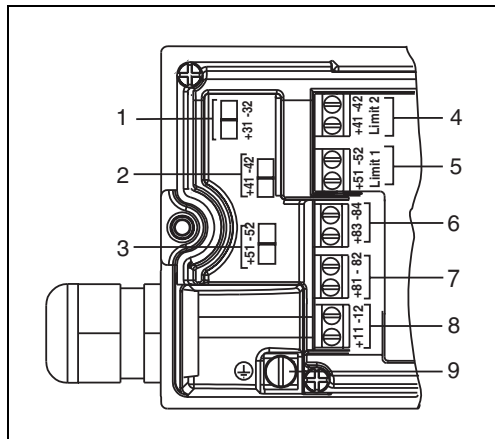

Fig. 18 Screw terminals
The screw terminals inside the case are assigned as follows (see Fig. 18):
1. Remove the cable sheath at the cable end. Cut the (green/yellow) protective ground conductor (1) and the two 4...20 mA signal lines (2) to the specified length and remove approx. 6 mm of the insulation.
2. Put the protective hose (3) on the ferrite tube (4).
3. Insert all wires through the cable gland (6) and the ferrite tube (4). Make sure that the end of the cable sheath (5) protrudes into the connection compartment. Fasten the cable gland.
4. Fasten the protective ground conductor (1) with the grounding screw and connect the 4...20 mA signal lines (2) to the signal terminals +(11)/-(12) (see Fig. 18 on page 23 and chapter 3.3.5).